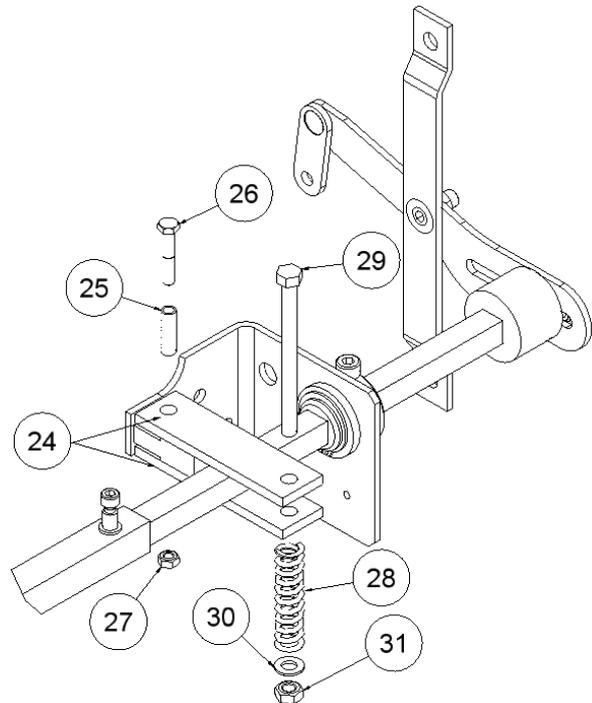

Figure.7
The two axle supports (24) must be aligned with the tensing support (one in upper part and other in lower part), then insert the tensing tip (25) and fix this group with the M6 X 35 DIN 933 screw (26) and M6 DIN 985 Autoblock nut (27). Next, the M8 X 100 DIN 931 screw (29) must be introduced in the free drill holes placed at the axle supports and through the spring (28), as can be seen in the figure. Finally the group is fixed by a M8 DIN 125 washer (30) and a M8 DIN 985 Autoblock nut (31) -Fig.7-.